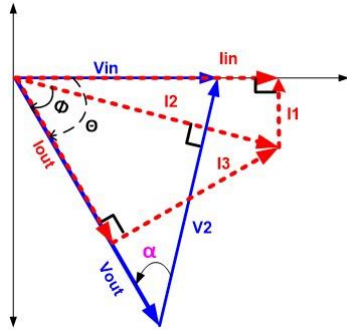
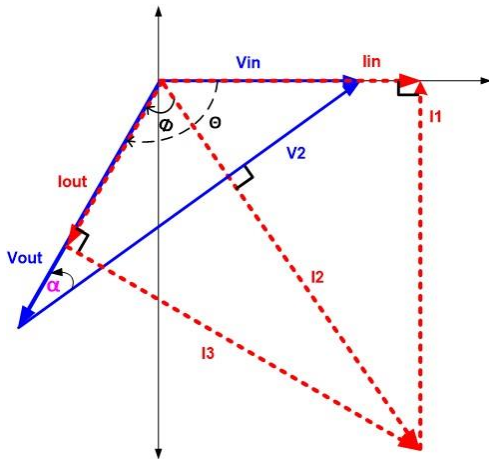

Figure 14: 60° Phase Delay Phasor Diagram
Figure 15: 120° Phase Delay Phasor Diagram
But, this is not the case with I_1 . **Figure 14** shows a 60° delay and **Figure 15** shows a 120° phase delay.
Figures 14 and 15 show I_3 leads V_{in} and the reactive element is now a capacitor. This occurs when $\sin(\Phi - \theta)$ in equation (22) is negative. To determine when this change occurs, a simple